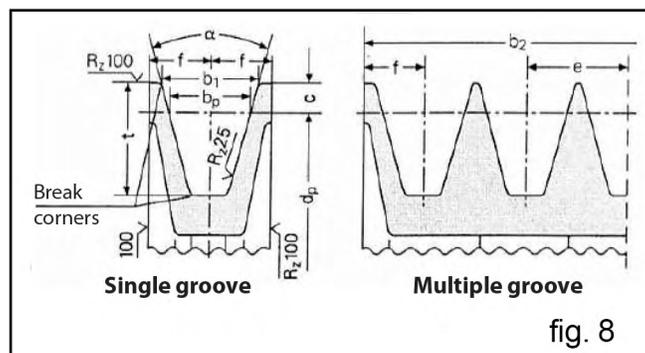

fig. 8
A) Use pulleys with V-belts with the size of the groove required/recommended by the manufacture of belt used. In the absence of directions, follow fig. 8 and the table in fig. 9.